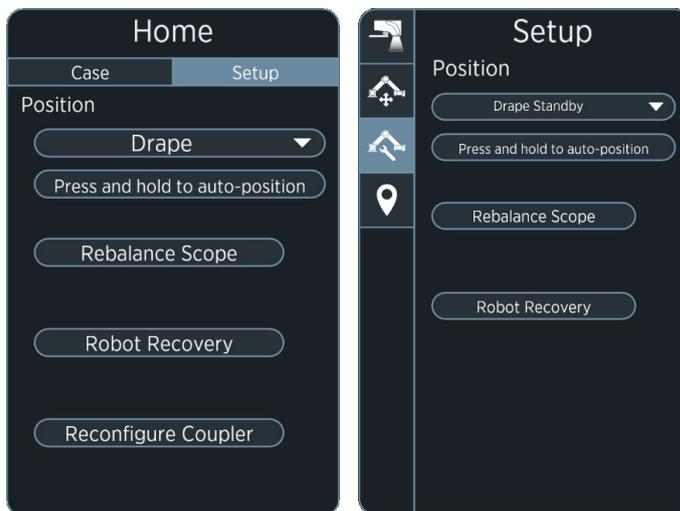

Fig. 31
- Position the robot via preset positions (e.g. Draped Position, Standby Position, see Fig. 31) on the touch screen.